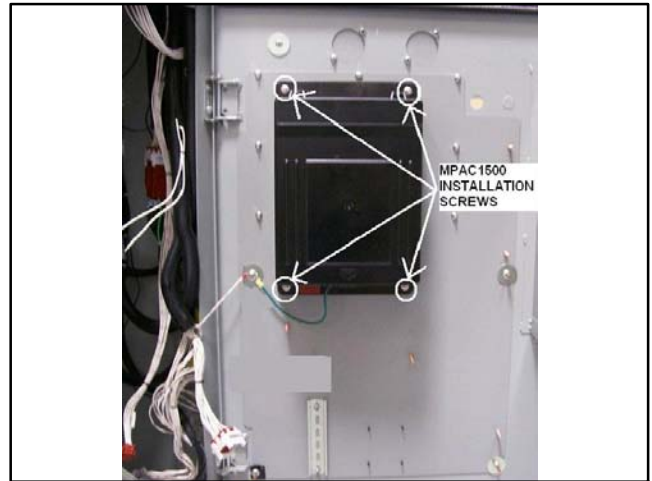

Figure 28 Controller Assembly Installation
18. Install the Decision-Maker® MPAC 1500 controller controller assembly (GM85884-1) onto the conversion kit mounting plate using four nuts (X-6210-2). See Figure 28.